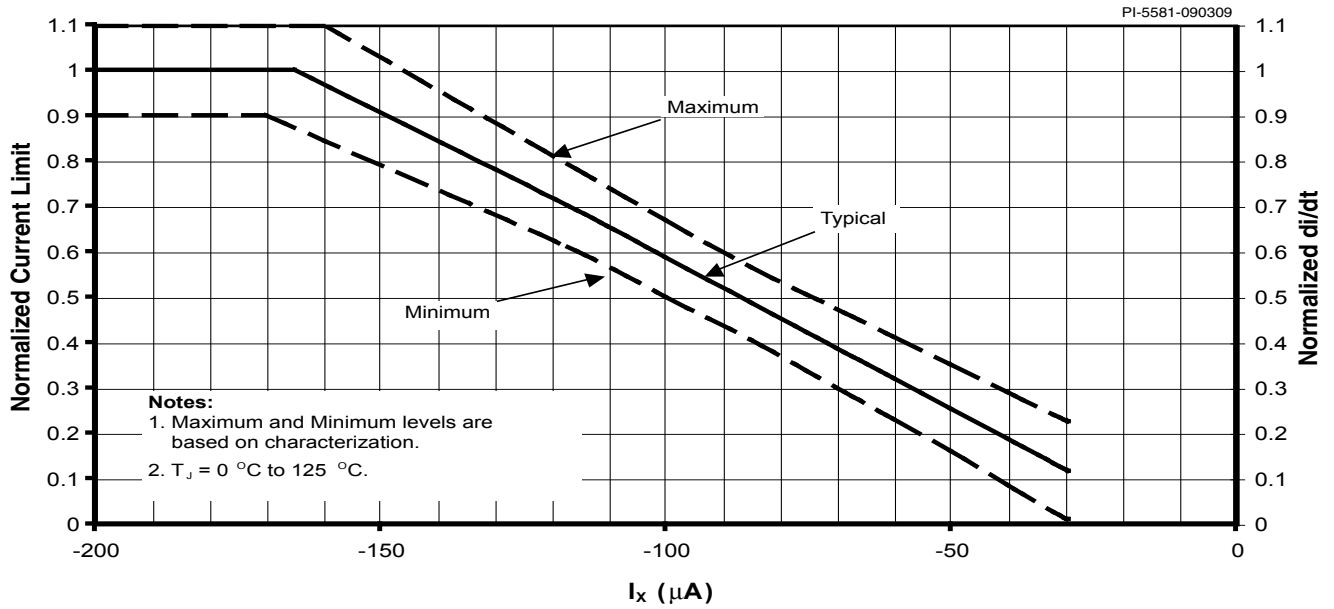

Figure 34. Normalized Current Limit vs. X Pin Current.
- D. For externally adjusted current limit values, please refer to Figures 34 and 35 (Current Limit vs. External Current Limit Resistance) in the Typical Performance Characteristics section. The tolerance specified is only valid at full current limit.